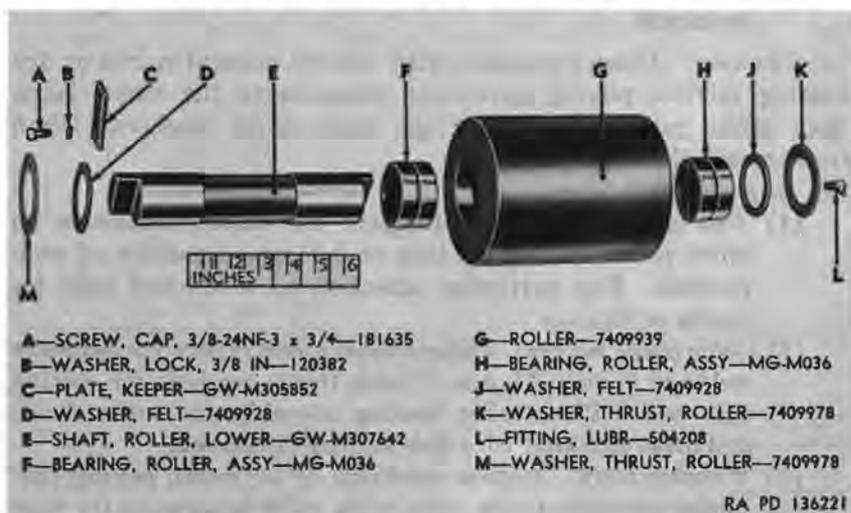

Figure 69. Lower cable guide roller—exploded view.
- (1) *Upper roller* (fig. 69). Remove two cap screws (A) and lockwashers (B) from keeper plate (C) and remove plate. Drive roller shaft (E) out and lift roller (G) with bearings, felt washers (D and J), and roller thrust washers (K and M) from mounting bracket.
(3) *Lower roller* (fig. 69).
- (1) *Lower roller* (fig. 69). Position roller bearing assemblies (F and H) in each end of roller (G). Place felt washers (D and J) and roller thrust washers (M and K) on each end of roller. Place the roller assembly in bracket at rear of wrecker body and install lower roller shaft (E). Position keeper plate (C) in slot of shaft and secure with two  $\frac{3}{8}$ -24NF-3 x  $\frac{3}{4}$  cap screws (A) and  $\frac{3}{8}$ -inch lockwashers (B).
- (2) *Upper roller.* Assemble upper roller in the same manner as the lower roller (1) above, with the exception of using roller shaft (E, fig. 70) in place of roller shaft (E, fig. 69).